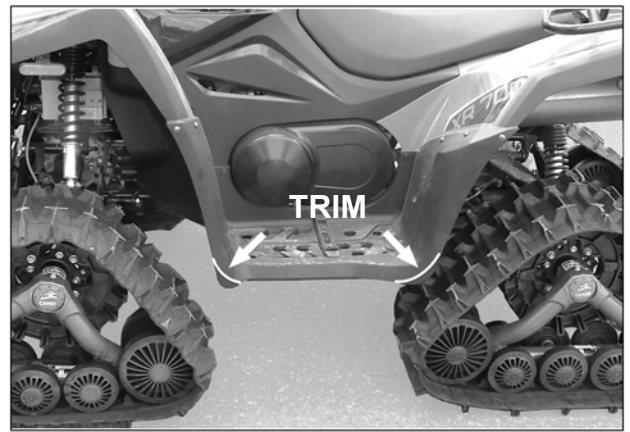

Fig. 29
4. To prevent any possible contact between track systems and footguards, the outer corners of the footguards have to be modified (trimmed). These modifications will help avoid damages to the vehicle or track systems. Fig. 29